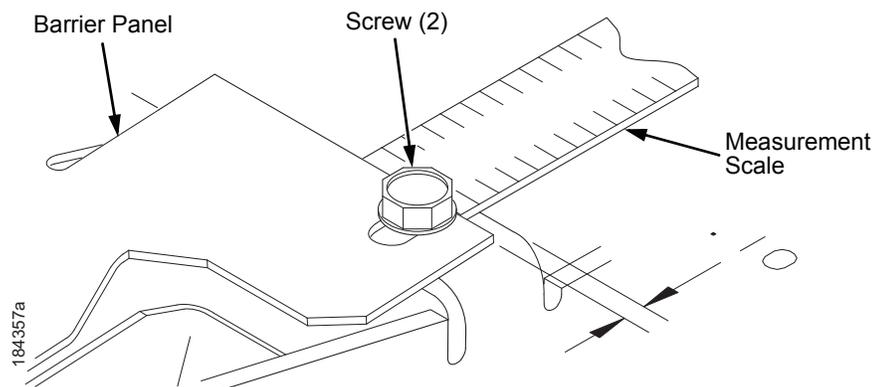

Figure 8. Using a Scale to Adjust the Barrier Panel
4. Adjust the top portion of the barrier panel so that it protrudes forward, towards the front of the printer 1/10 inch. Use a measurement scale as a guide. (See Figure 8.)